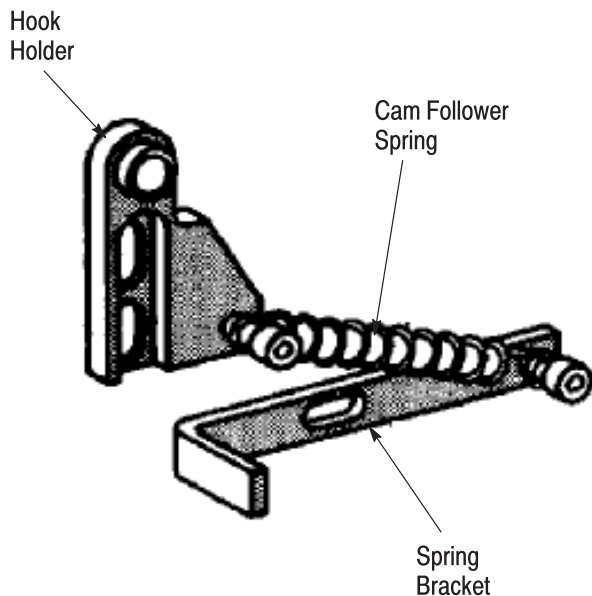

Figure 5
8. Attach the the spring to the shear pick–up hook holder and bracket. See Figure 5.